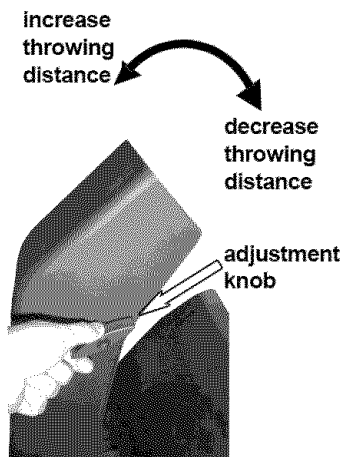

Figure 13- Adjusting the chute deflector
The angle of the chute deflector controls the throwing distance of the snow leaving the chute. Raising the angle will increase the throwing distance. Lowering the angle will decrease the throwing distance (see figure 13).
2. Loosen the knobs on the chute deflector as shown in figure 13 and adjust the chute deflector to the desired angle.